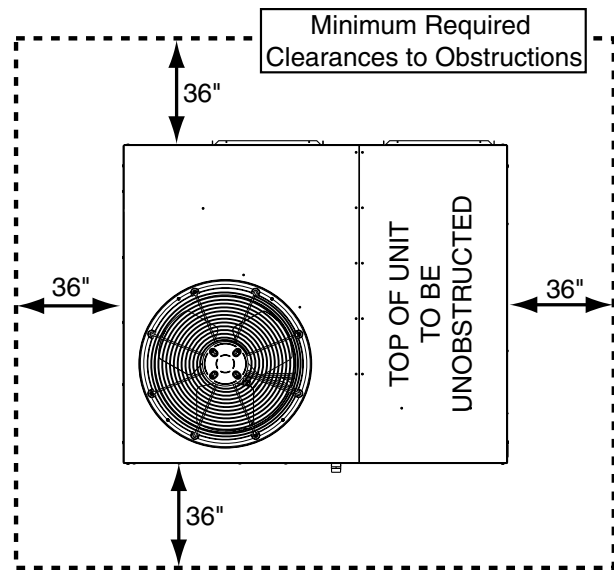

Figure 2. Clearance Requirements
- Sufficient clearance for unobstructed airflow through the outdoor coil must be maintained in order to achieve rated performance. See Figure 2 for minimum clearances to obstructions.
Q6SE units are certified as combination heating and cooling equipment for outdoor installation only. Figure 2 (page 6) displays the minimum clearances to obstructions for both downflow and horizontal discharge.
- Clearances must be in accordance with those shown in Figure 2. Also consider clearances for access to the internal filter.